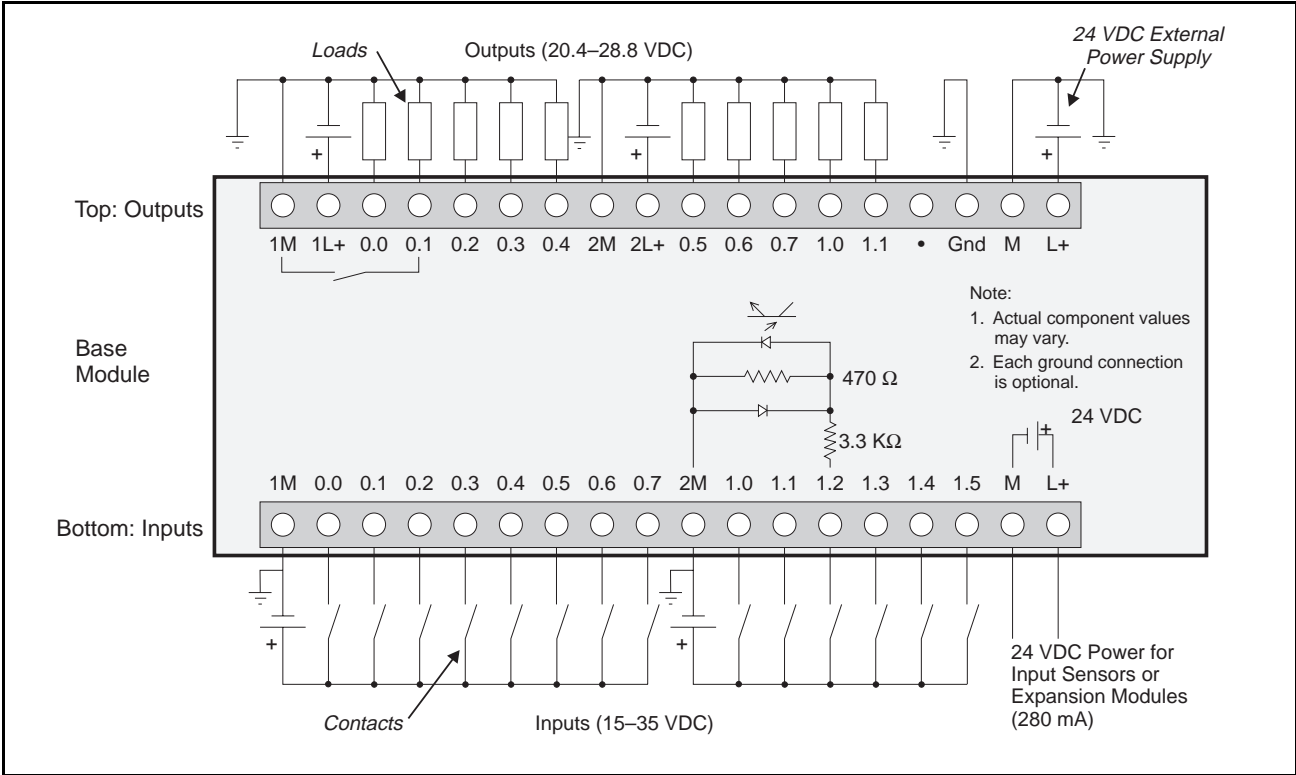

Figure 4.5 DC Base Module (DC Power Supply, DC inputs, DC Outputs)
2. Identify and route wires from field points to the S7-I/O device. Be sure the wires have proper strain relief at the S7-I/O device. To identify the proper terminals, see **Figures 4.5 through 4.11** on the following pages. Refer to connector labels under the access covers of the S7-I/O device.